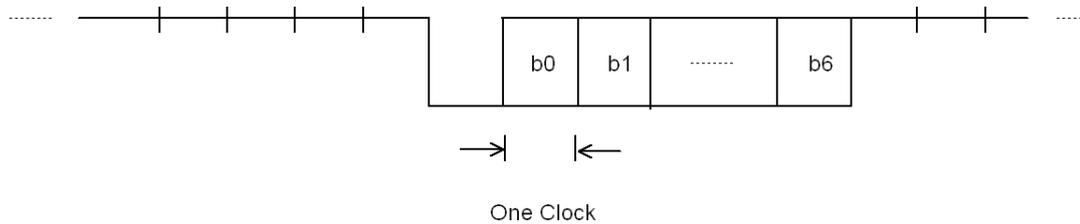

Fig. 2. The waveform of the data line.
3. The waveform of the data line is given in Fig. 2. The line is normally at high level. When data are to be transmitted, the line goes low for one clock period (called start bit), and then the data bits are serially sent from bit 0 to 6 with high level representing 1 and low level representing 0.